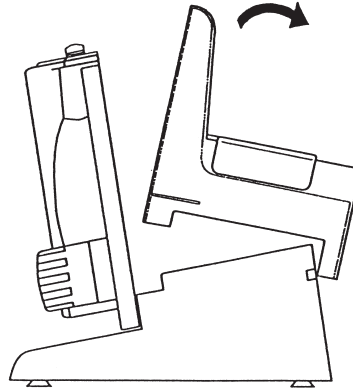

Figure 5
5. Remove Food Press Plate and Feeder by tilting off as shown in Figure 5.